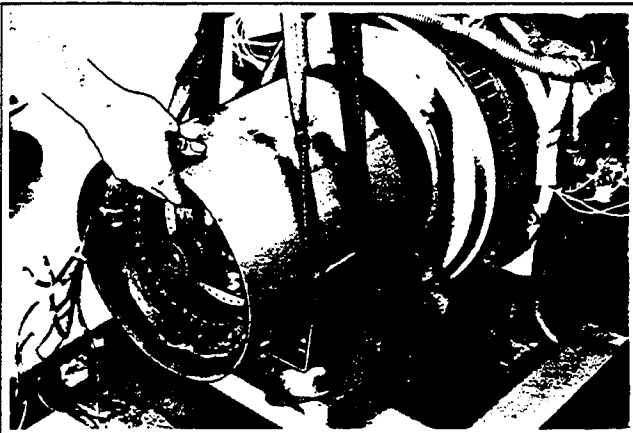

Figure 5-7. Stator Removal
11. Remove stator, being careful not to damage rotor while removing. Figure 5-7.